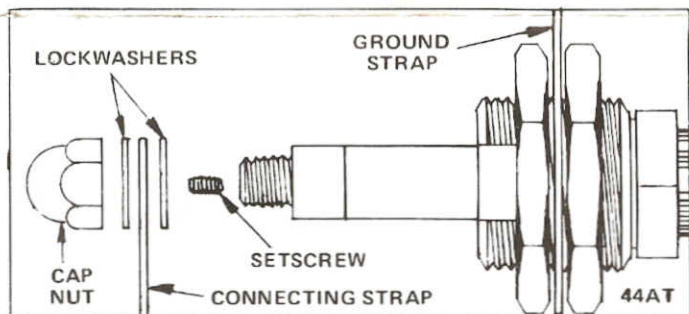

FIGURE 7
**STEP 7.** Lock stud head in place with setscrew. See Figure 7. Add lockwasher, connecting strap, lockwasher, and cap nut. Tighten cap nut.